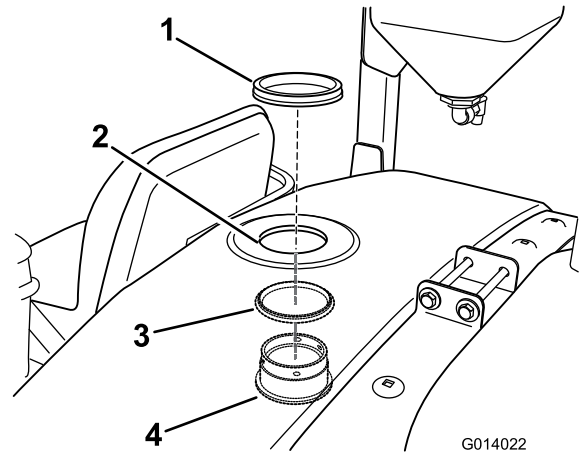

Figure 18
2. Install the bulkhead and the O-ring up from inside the tank through the previously cut opening (Figure 18).